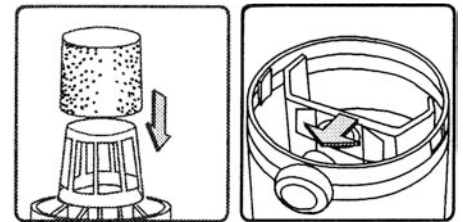

FIGURE 9
- 9) Start the vacuum by pushing the On/Off water proof switch to the On position as shown in Fig.9. The On position is indicated by the international symbol "I" on the switch.